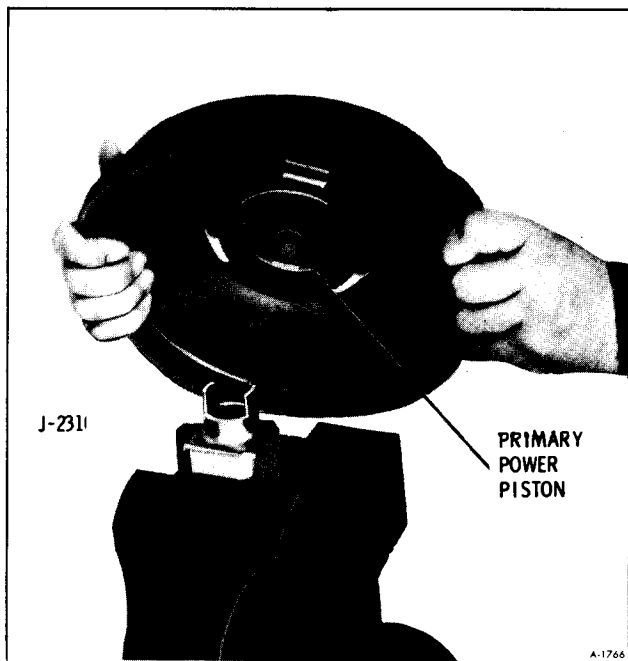

Figure 42—Positioning Primary Power Piston
up. Position the primary power piston so that the two radial slots in the piston fit over the jaws of the tool. (figure 42)
11. Mount Tool J-23101, in a vise, small jaws up. Position the primary power piston so that the two radial slots in the piston fit over the jaws of the tool. (figure 42)